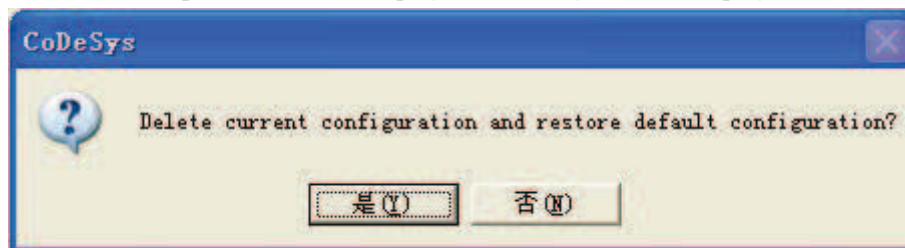

Figure 2-3-16 “Extras” Menu (4)
- Standard configuration: A dialog shown in figure 2-3-16 appears, restore default configuration by clicking Y and keep current configuration by clicking N.